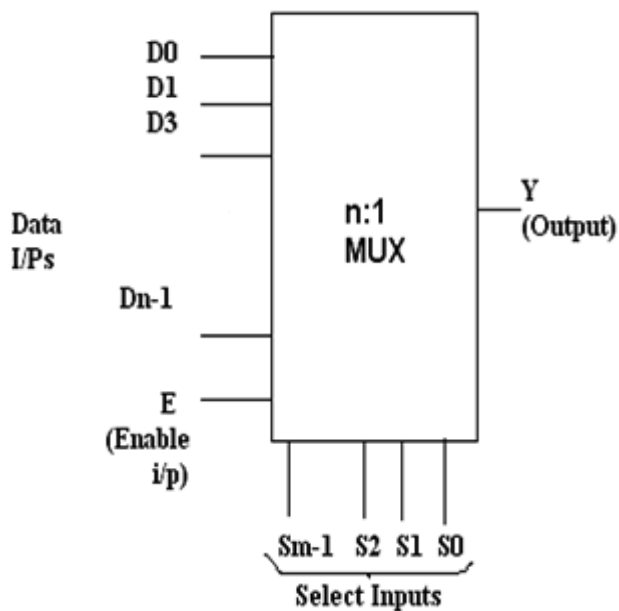

Figure 8.1 Block diagram of n: 1 Multiplexer
Multiplexer is a combinational circuit that is one of the most widely used in digital design. The multiplexer is a data selector which gets one out of several inputs to a single output. It has n data inputs and one output line and m select lines where $2^m = n$ shown in figure 8.1. Depending upon the digital code applied at the select inputs one out of n data input is selected and transmitted to a single output channel. Normally strobe (G) input is incorporated which is generally active low which enables the multiplexer when it is LOW. Strobe input helps in cascading. IC 74151A is an 8: 1 multiplexer which provides two complementary outputs Y and $\bar{Y}$. The output Y is same as the selected input and $\bar{Y}$ is its complement. The $n: 1$ multiplexer can be used to realize m variable function. ($2^m = n$, m is no. of select inputs)